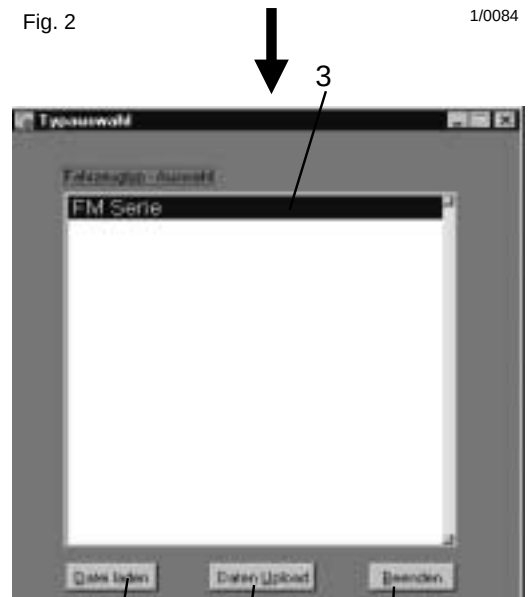

Fig. 3
- Select "Inbetriebnahme Hydraulik" (2).
- In the type selection window (Fig. 3) there are 3 options for further procedure:
- Commissioning with the standard parameter set (3) if no vehicle-specific data has previously been created (initial commissioning).
- Commissioning with a vehicle-specific file using the **Datei laden** (4) button. For this purpose, the LAS data must first be stored in a vehicle file (see sheet no. V19 + 20).
- The **Beenden** button (6) can be used to abort the process.